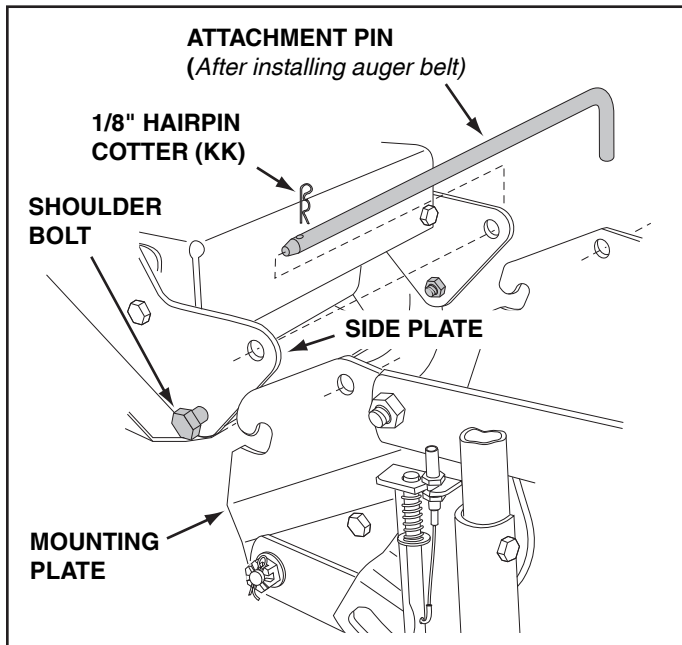

FIGURE 54
STEP 55: (SEE FIGURE 54)
STEP 58: (REFER BACK TO FIGURE 54 ON PAGE 23)
- Lift the front of the snow blower to align the holes in the mounting plates and the side plates. From the left side of the tractor insert the attachment pin through the holes. Secure it with by reinstalling the 1/8" hairpin cotter (KK).